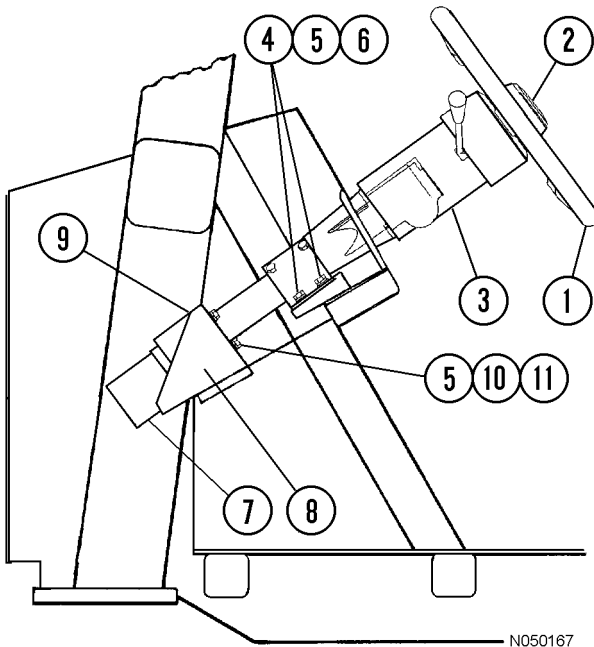

FIGURE 5-1. STEERING CONTROL UNIT
4. Remove four mounting capscrews (10, Figure 5-1), flat washers and lockwashers. Remove steering control unit (7).